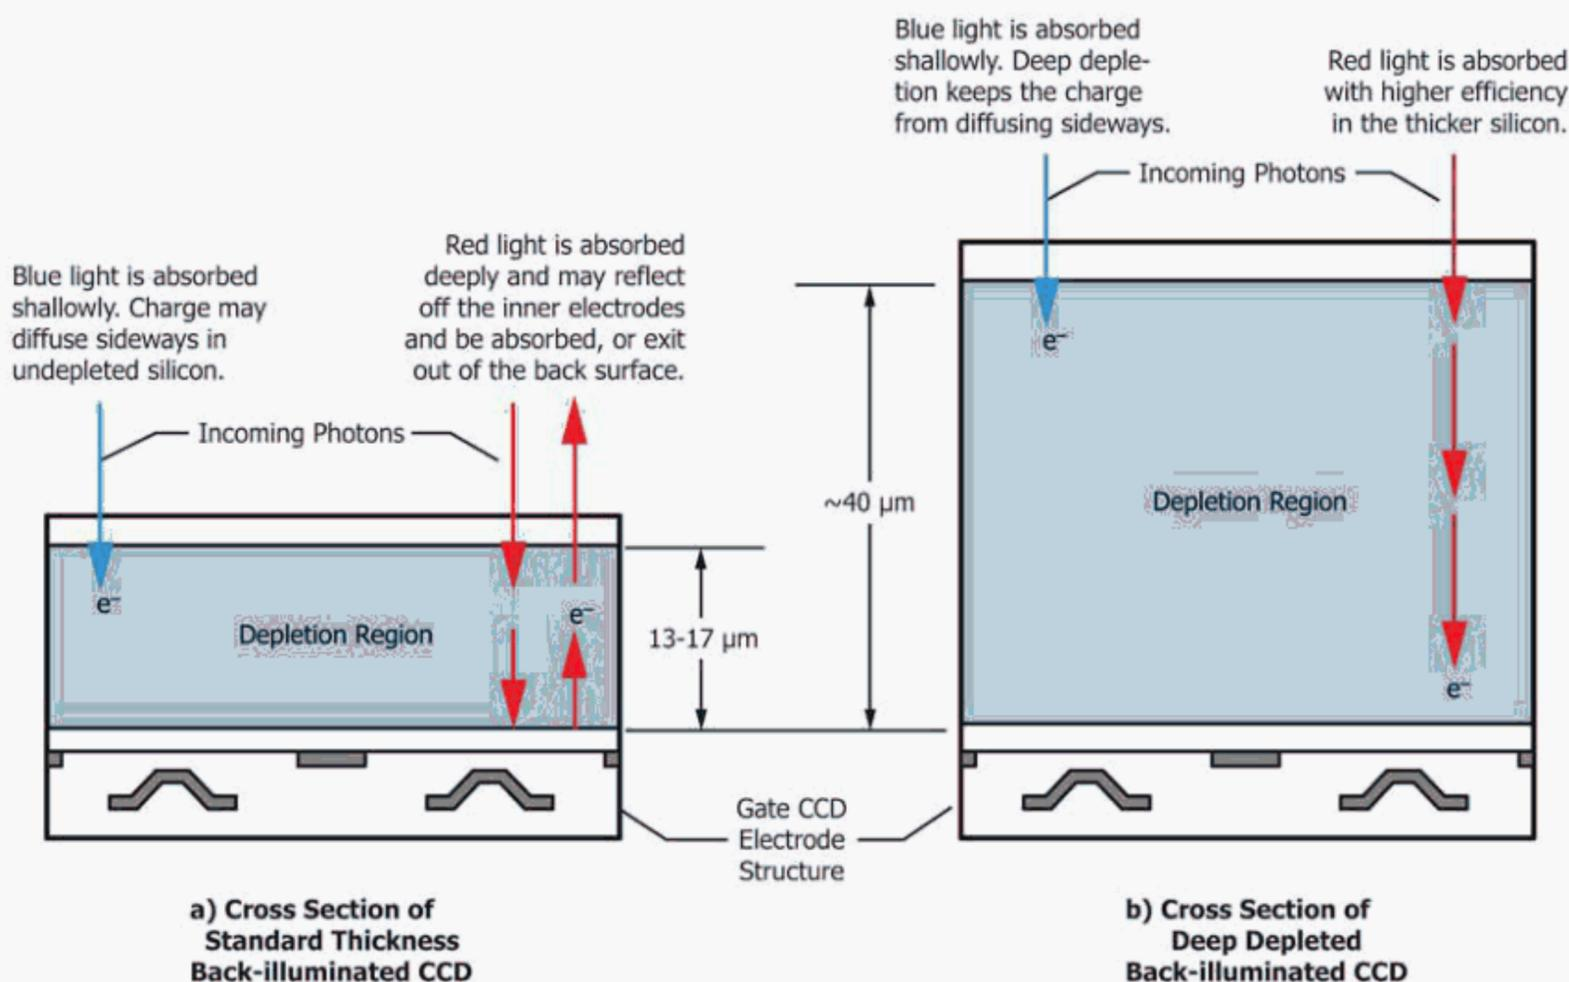

FIG. 5 Cross-Sections of Back-Illuminated (a) and Back-Illuminated Deep Depletion (b) Devices
**DISCUSSION**—Both front-illuminated and back-illuminated CCDs can be manufactured with a deep depletion process to enhance the NIR response; however, such devices cannot be operated in AIMO and are also more susceptible to cosmic rays. A back-illuminated deep depletion CCD will have reduced etaloning effects that are typically observed in back-illuminated devices exposed to NIR signals (see Fig. 5).
**etaloning, *n***—a phenomenon by which constructive and destructive interference fringes are produced in a back-illuminated CCD caused by internal reflections between the two parallel surfaces of the CCD. Typically BI CCDs experience etaloning effects when subjected to NIR signals (see Fig. 5).